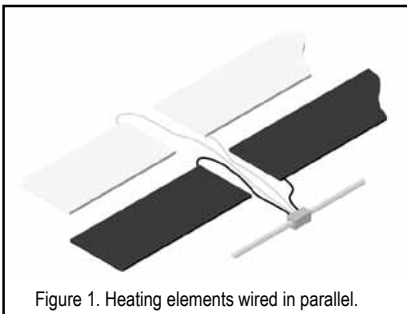

Figure 1. Heating elements wired in parallel.
- More than one length of heating mat may be required to heat the entire length of the sidewalk or walkway. In this case, you will need to wire the mats according to Figure 1.
- More than one length of heating mat may be required to heat the entire length of the driveway. In this case, you will need to wire the mats according to Figure 1.